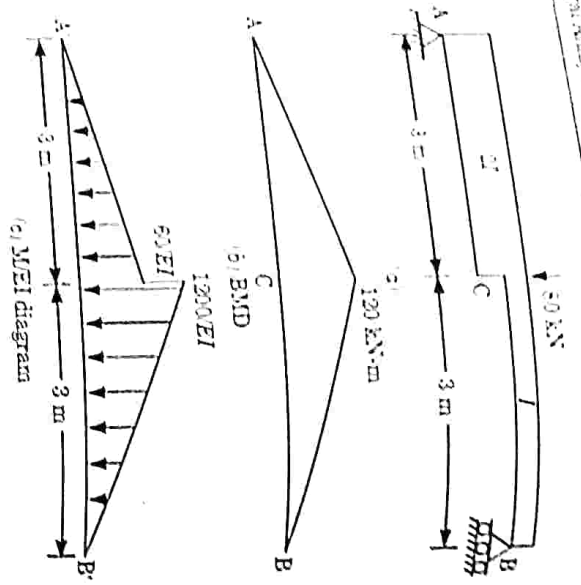

Fig. 3.21.2.
3. Fig. 3.21.2(a) shows given beam. Fig. 3.21.2(b) shows the bending moment diagram for the given beam (M-diagram) Fig. 3.21.2(c) shows the conjugate beam.